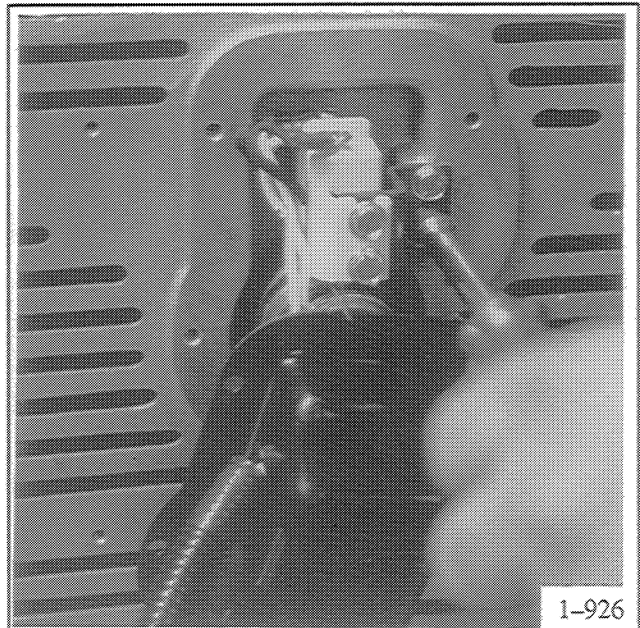

Figure 8-13. Removing Brush Holder Bracket
17. Remove two screw securing brush holder bracket using 5/16 in. nutdriver or socket wrench. See Figure 8-13.